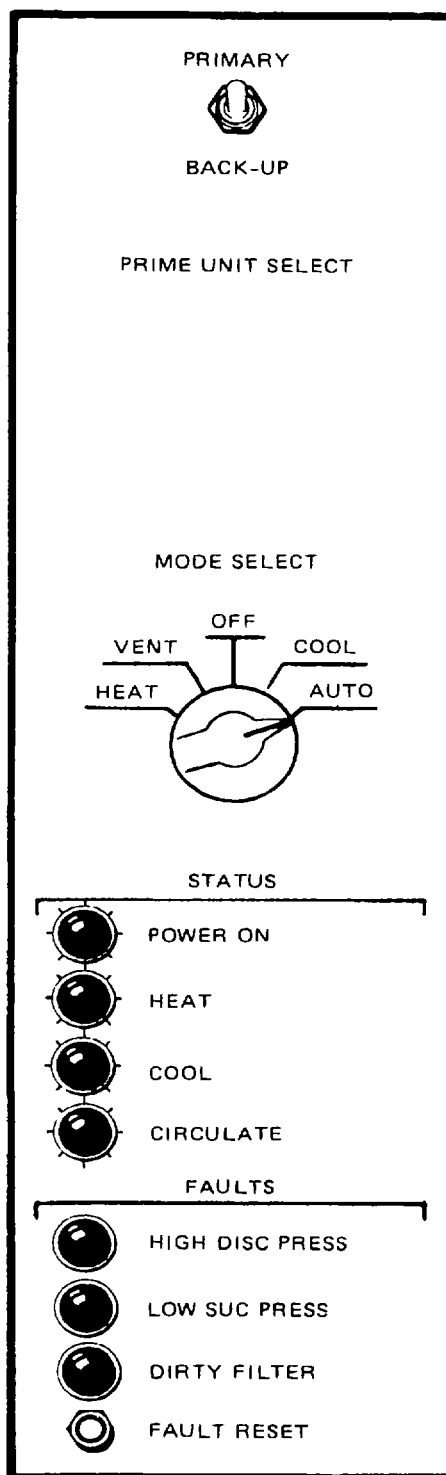

Figure 2-6. Auto Mode
**2 11 OPERATION IN AUTO MODE (see fig. 2-6)**